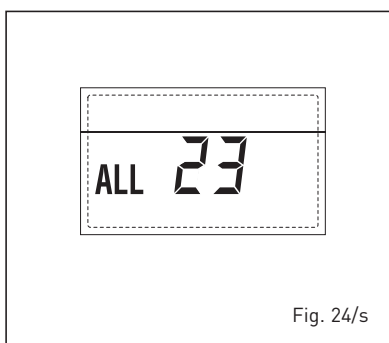

Fig. 24/s
- SOLAR S1 COLLECTOR PROBE BREAKDOWN ANOMALY "ALL 24" (fig. 24/t)